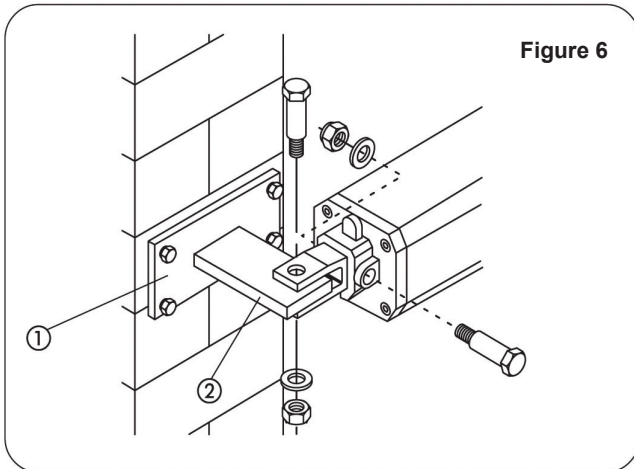

Figure 6
- For iron pillars, weld the rear attachment (Fig. 6, Ref. 2) directly to the pillars.
B.) Use screws and expansion plugs to secure the rear attachment plate (Fig. 6, Ref. a) to the pillar. Then weld the rear attachment to the plate as shown in Figure 6.
- 2.) Secure the operator to the rear attachment with the supplied screws (Fig. 6).